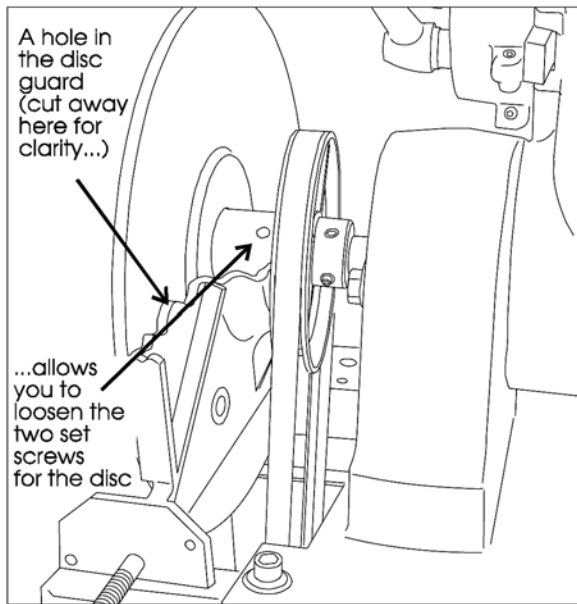

Figure 12: Locating the set screws that secure the disc to the arbor
8. Through the hole in the disc guard casting, locate and remove the TWO set screws that secure the drive disc to the arbor (Figure 12). One set screw clamps on the arbor key and the other clamps on the arbor shaft, itself. Be sure you loosen both of them.